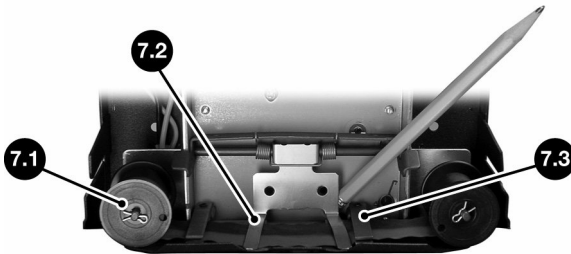

Figure 7
2. Remove the **cotter pins** - **Figure 7, 7.1** that retain the ribbon spools and slide off old spools.
3. Lift **ribbon hold-down guide** - **Figure 7, 7.2** - use a pencil to support it in an up position.
4. Remove ribbon and replace with new Lathem ribbon. Make sure the ribbon feeds from bottom of the spools and runs **BETWEEN reversing fingers** - **Figure 7, 7.3**, the red side should be aligned with the date or day wheel(s).